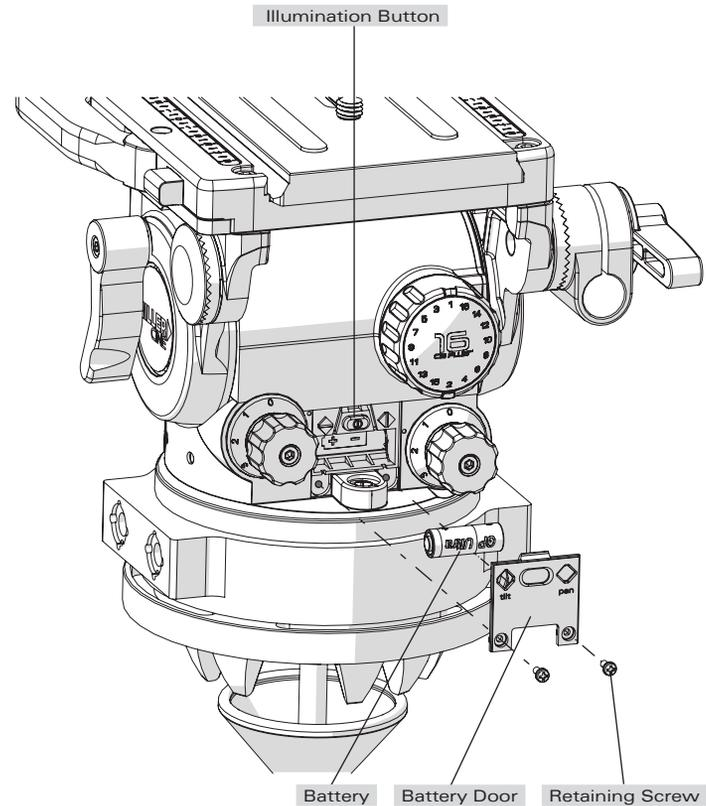

Fig. 12
- Insert the new battery as shown in (Fig. 12).